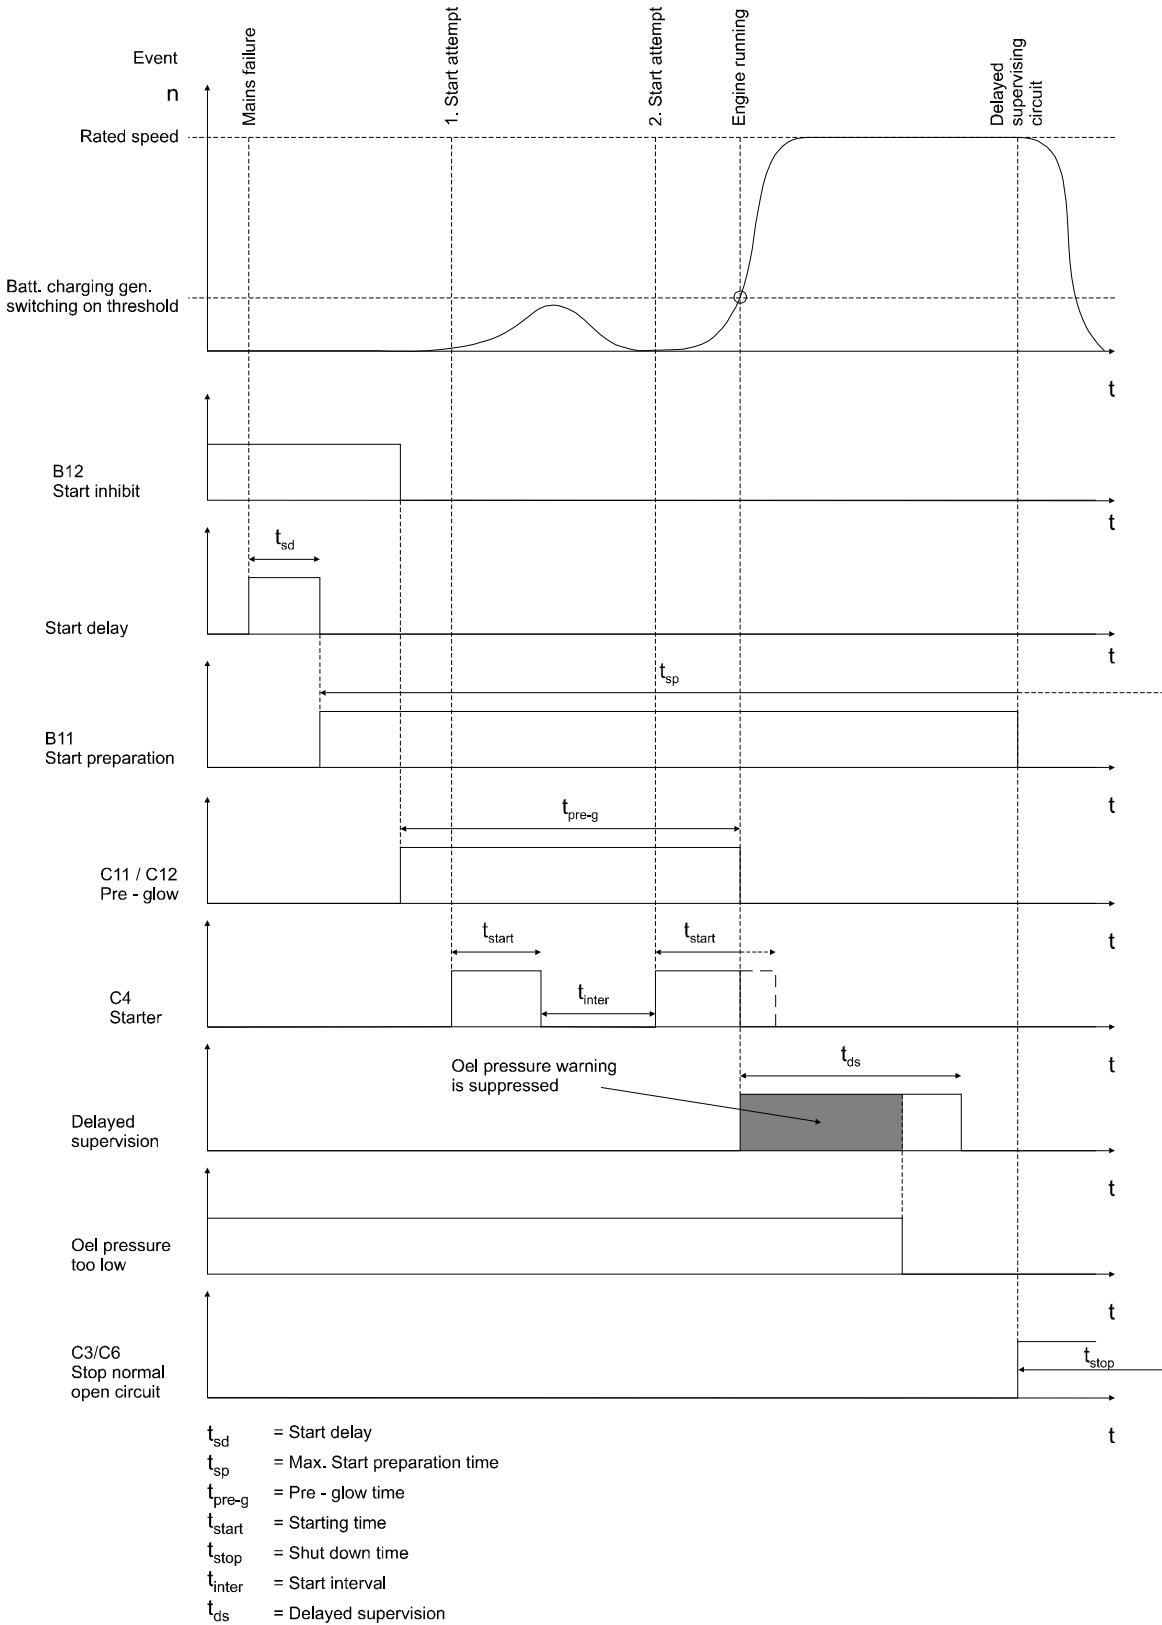

Figure 5.1: Start cycle
Prior to the starting procedure for some gensets certain preparations are necessary, e.g. switching on of pre-lubrication pumps or opening of jalousies. If this process should function automatically, the start has to be blocked for this time (output B12). Blocking of the start is indicated by slowly flashing LED ⑤. After the start delay time  $t_{sd}$  has elapsed, L+ is connected to output B11 see Figure 5.1. For control of the pre-lubrication pump or the jalousies for instance, an external aux. relay can be connected to this output. Check-back contacts (pressure supervision etc.) or limiting switch (jalousies) have to be interlinked as NC contacts parallel in the start blocking chain (B12). Only after the start blocking chain is opened, output C11/C12 (pre-glowing) is activated and the start relay at output C4 energized after pre-glowing time  $t_{pre-g}$  has elapsed. After a successful start, the time circuit "Delayed Supervision" ( $t_{ds}$ ) elapses. Any alarms which are delayed supervised, e.g. "Oil Pressure Too Low", are suppressed during this time ( $t_{ds}$ ). This, however, does not apply to direct shut-down alarms.